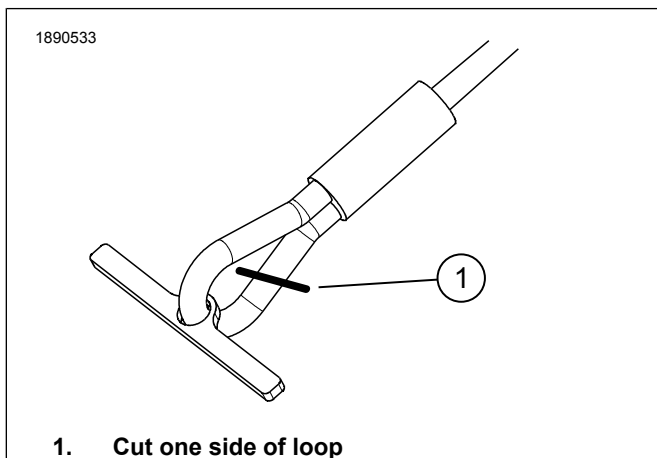

Figure 3. Seat Support Cable Cut Location
- a. See Figure 3. Cut one side of cable loop.